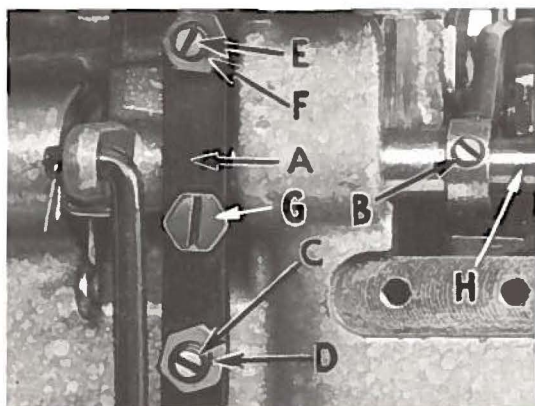

Fig. 13
Assemble the presser foot to presser arm. With needle in high position, swing presser arm into sewing position and set the presser foot to align needle holes (front and back) and flat on throat plate. The front edge of needle hole in presser foot must be aligned with front edge of needle hole in throat plate. It is also important that the bottom of the presser foot be flat on the throat plate. If necessary, presser foot can be realigned with throat plate slots by shifting the foot lifter lever shaft (H, Fig. 13). To move the shaft, loosen collar screws (B) and clamp screw (G) and then shift the foot lifter lever shaft to the left or right as required. Retighten collar screws and clamp screw.